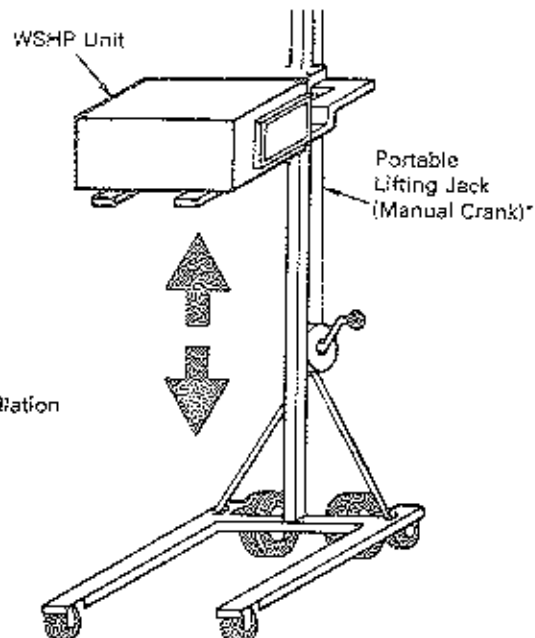

Figure 18
5. Minimize obstructions in the conditioned space beneath the unit whenever possible. A manual, portable jack can then be used to lift and support the weight of the unit during installation or servicing. See Figure 18.